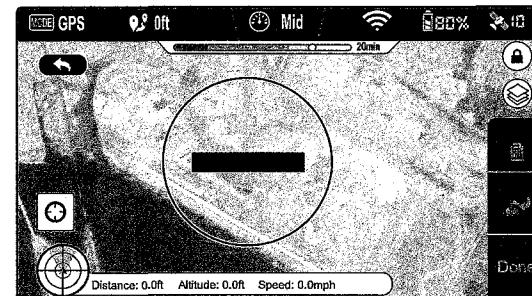

Figure 104
- ⚠** • A circle on the map, as shown in Figure 104, indicates a restricted, No Waypoint area. Waypoints cannot be placed in this area. For more information, refer to "6.2 Flight Restriction of Restricted Areas (P30)".